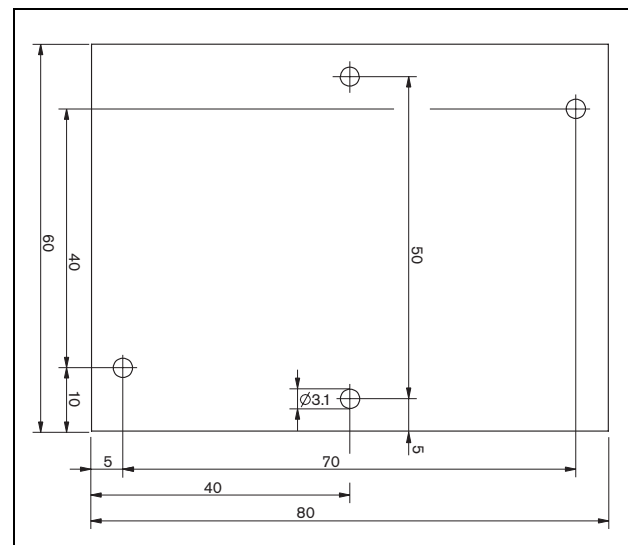

figure 8.5: Supervision-slave PCB dimensions
- 1 Use the holes in the supervision-slave (see figure 8.5) to mount it in a loudspeaker. The coils on the supervision-slave PCB must be kept at a distance of 3 cm or more from the loudspeaker magnet and a distance of 5 cm or more from the loudspeaker transformer, otherwise the magnetic fields can disturb the correct operation of the supervision-slave.